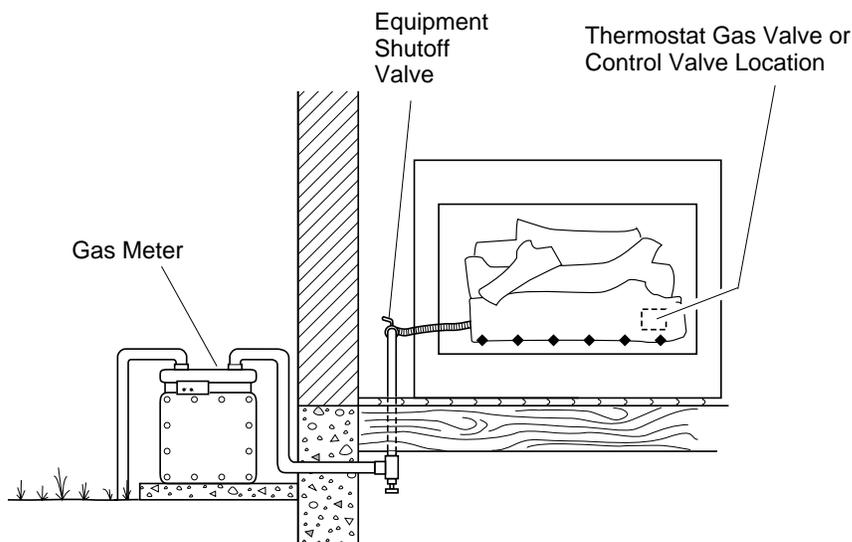

Figure 17 - Checking Gas Joints
3. Check all joints from gas meter to equipment shutoff valve (see Figure 17). Apply mixture of liquid soap and water to gas joints. Bubbles forming show a leak.
4. Check all joints from equipment shutoff valve to control valve (see Figure 17). Apply mixture of liquid soap and water to gas joints. Bubbles forming show a leak.